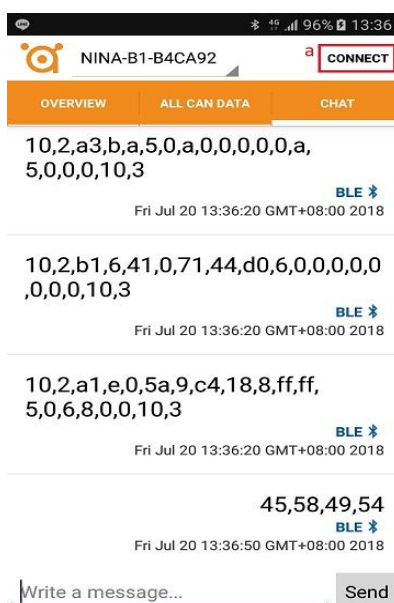

Figure 10
3. The “DISCONNECT” button will change to “CONNECT” button around 30 seconds as Figure 10(a).